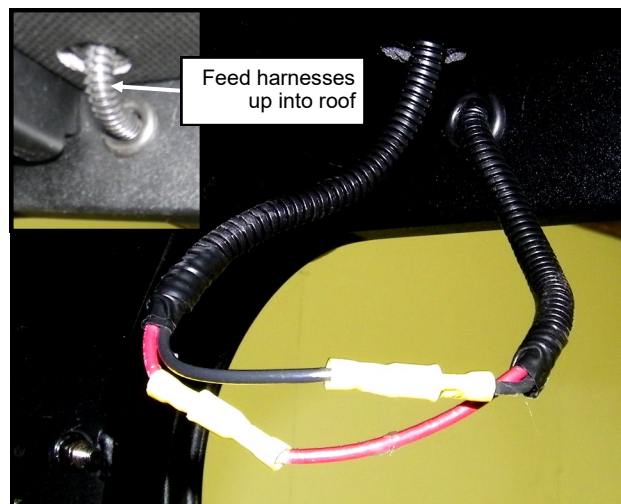

Figure 9.1: Side Frame and Roof connection
- 9.1 Connect the bullet terminals from the frame wire harness to the roof wire harness, and push the harnesses up into the roof panel until none of the terminals are visible (**Figure 9.1**).